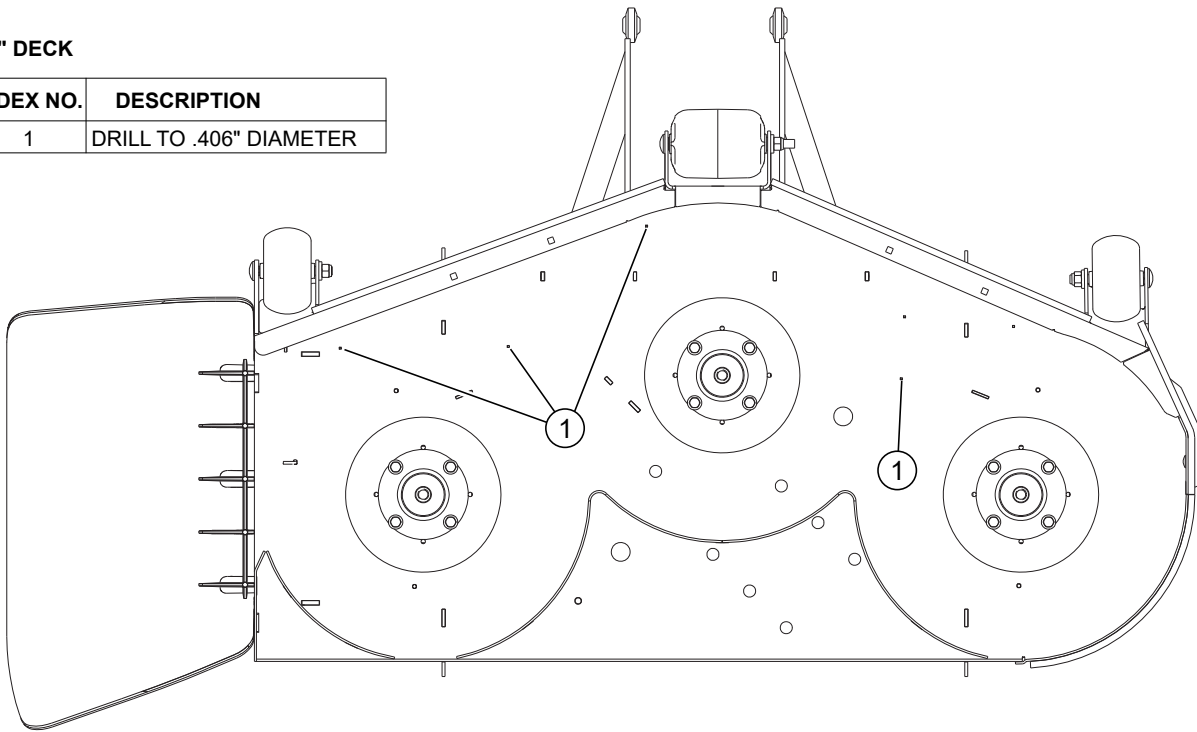

FIG. 2
4. Locate the pilot holes shown in Fig. 1, Fig. 2, Fig. 3 & Fig. 4. The 36" deck has three (3) pilot holes. The 48" deck, 54" deck, and 60" deck have four (4) pilot holes. Enlarge the pilot holes using a .406" diameter drill bit.